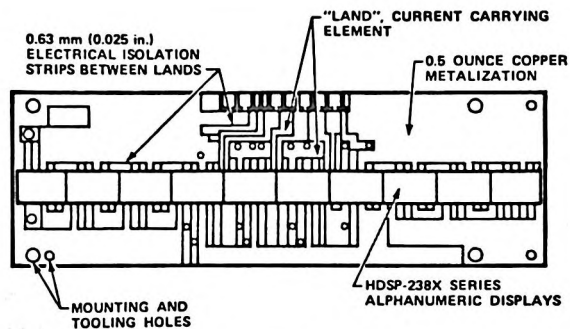

Figure 8. Maximum Metalized PC Board, Double Sided, for Mounting HDSP-238X Series Displays.
1. Mount the displays on a double sided maximum metalized PC board, as illustrated in Figure 8.